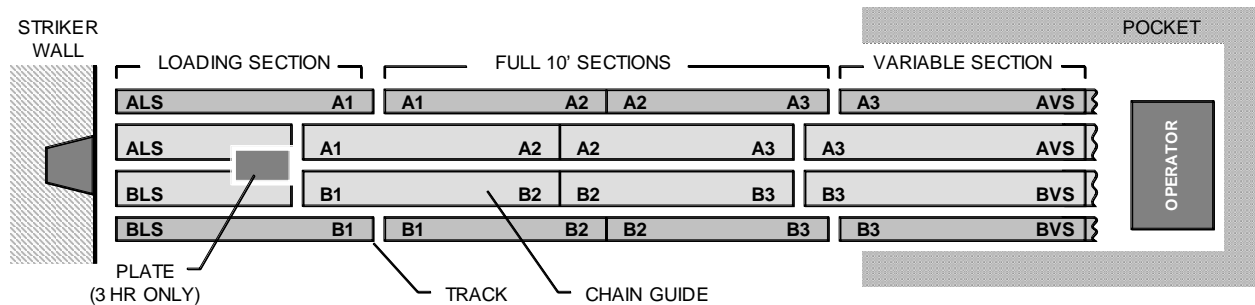

Figure 3a. Chain Guide and Track Arrangement (TOP VIEW)
Locate and unpack the chain guide. The chain guide is provided in some combination of the following types: Loading Sections, Full 10' Sections (quantities vary), and Variable Sections (length and quantity vary). Loading Sections and Variable Sections will be labeled with a three-letter code. The first letter of each code indicates which side the section should be installed. (When facing the pocket, the left-hand side is the "A" side.) The last (2) letters indicate whether it is a load section (**LS**) or variable section (**VS**). Variable Sections may need to be cut to size in the field. A "cut" end should never be used in a joint with another section of chain guide. (I.e. The Variable Section's "cut" end should face the back wall of the pocket). The ends of the Full 10' Sections are labeled with a 2-3 digit code. The first digit indicates the side on which they should be installed. The following digits are the joint number. (A1 butts against the "A"-side load section, **A2** butts to **A2**, **A3** to **A3**, etc.) This is important because the predrilled holes of the track and chain guide may not align if they are not installed in the correct positions. It may be helpful to simulate the layout of chain guide on the floor prior to installation. See **Figure 3a**.
Locate and unpack the track. The Load and Variable Sections have been labeled with the same (3) digit code as used in for the chain guide sections. The joints of the Full Sections have been labeled similarly to the chain guide ends. It may be helpful to simulate the layout of track on the floor. See **Figure 3a**. The door sections will later be loaded by removing both sides of the Load Section, but the full Load Section must first be completely installed to ensure the spacing and length of the entire chain guide assembly.